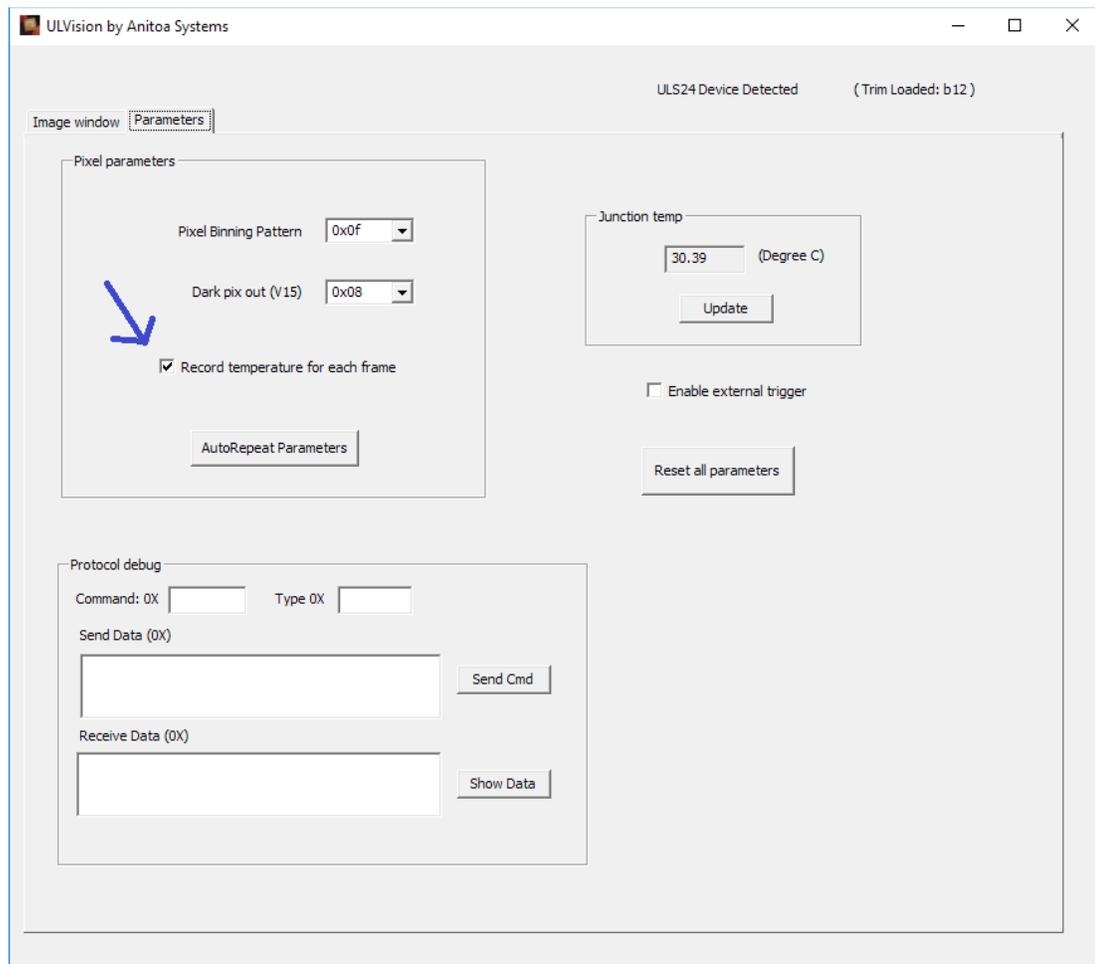

Figure 2. Select "Record temperature for each frame".
Step 1. Collect the dark frame. First let's enable temperature capturing so we could perform temperature compensation when using dark subtraction (see Figure 2). With the automatic dark subtraction feature disabled, place the sensor in a dark environment and capture the image. Typically in application, the sensor is placed in a light-tight box with the samples. To collect dark frame, we typically do not add samples that may be emitting lights. For example, we can inject pure water into the sample chamber or channel, or just simply leave them empty. In the case of a fluorescence set up, we do not turn on the excitation light at this time.